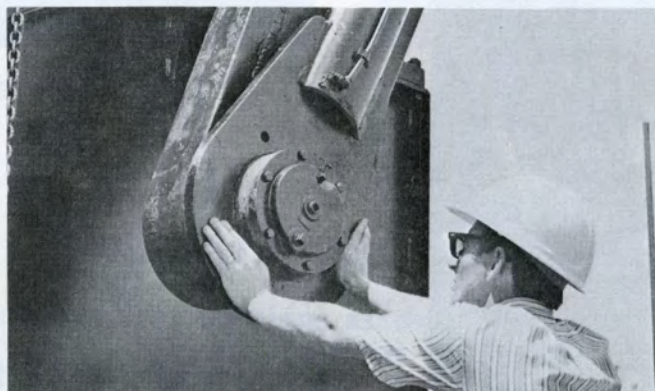

Figure 20
- 16. Figure 20 - Connect Pitmans to Crank Pins